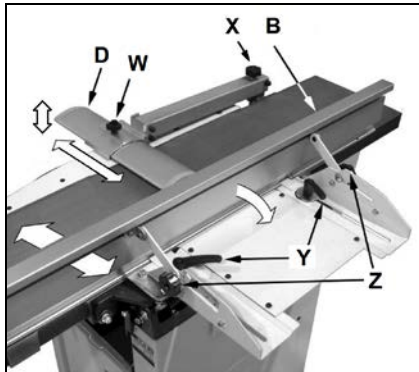

Fig 12
Losen the lock knob (W, Fig 12) to adjust the cutterblock guard (D) against the fence (B).
Loosen the locking handles (Y, Fig 12) to adjust.
Loosen the locking knobs (Z, Fig 12) to adjust.